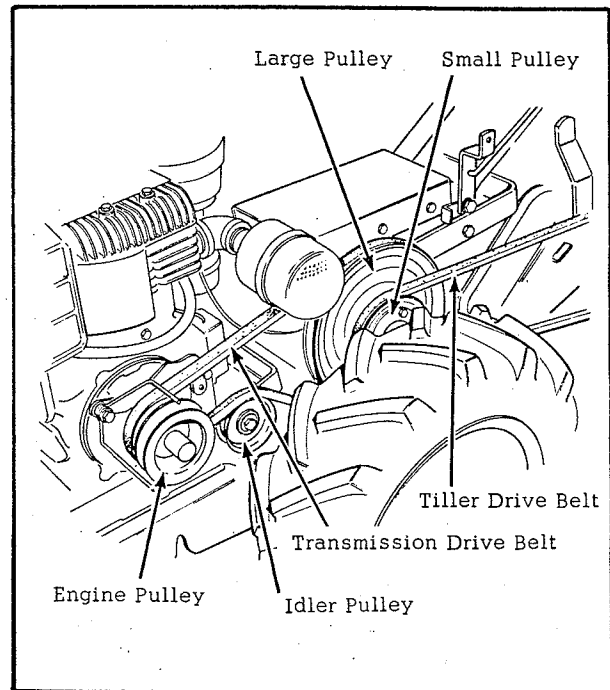

Fig. 6
5. Install drive belt from engine pulley to transmission drive pulley, and then install the tiller drive belt as shown in figure 6. Check the pulleys for alignment with each other, and adjust if required. When pulleys are in line, tighten the set screws securely.